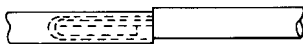

FIGURE 11.
- a. *Skinned End of Wire Folded Back* (Figure 11): When the connection is made by folding back the skinned end of the wire, the length of bare wire from the skinning point to the fold should be slightly less than the depth of the terminal. Insert the folded wire into the tubular portion of the terminal so the spring effect of the folded wire will hold it in place before soldering. Then hold the copper tip against the side of the terminal until the solder can be flowed into the tube.